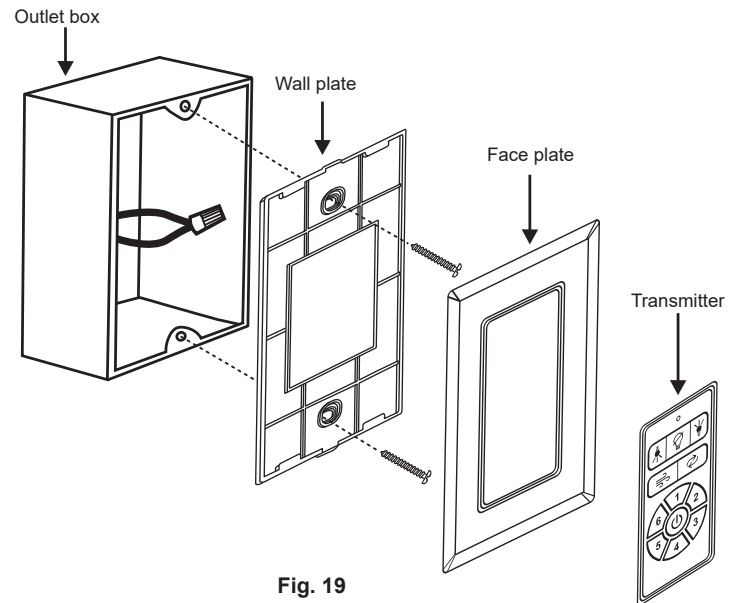

Fig. 19
Step 1. Remove the existing wall plate from the wall outlet box. Wire nut the BLACK leads (hot) together and push back inside the outlet box. (Fig. 19)